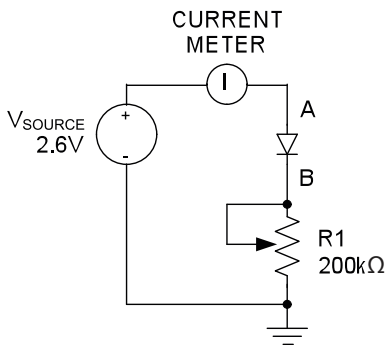

Figure 7. Test Circuit for Determining  $V_{F(DARK)}$
Set up the test circuit of Figure 7. Adjust  $R_1$  until the current meter indicates  $I_{DARK}$  (choose  $I_{DARK} < 1\text{mA}$ ). Use a volt meter to measure the voltage at the anode of the LED (A), and then at the cathode of the LED (B). Subtract the voltage measured at B from that measured at A to determine  $V_{F(DARK)}$ . Some typical values determined using this method are listed in Table 2.
Table 2. Some Typical  $I_{DARK}$  and  $V_{F(DARK)}$  Values Determined Using Figure 7